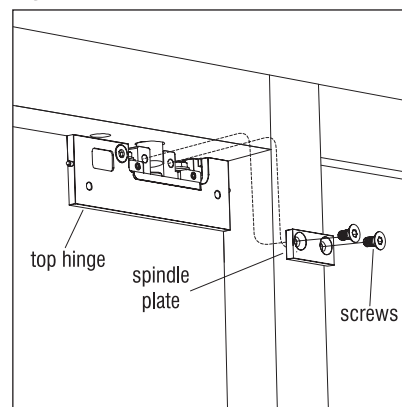

Figure 17
8. Holding the door in place, attach spindle plate with two flat head screws using a 5mm Allen wrench. Tighten them completely (Figure 17).